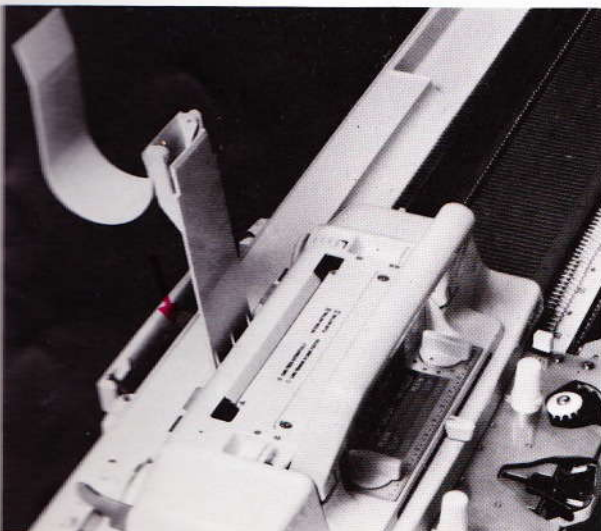

Fig. 22
- Insert the card support firmly into the slot at the back of the carriage (fig. 22). Leave the cover of the support open.